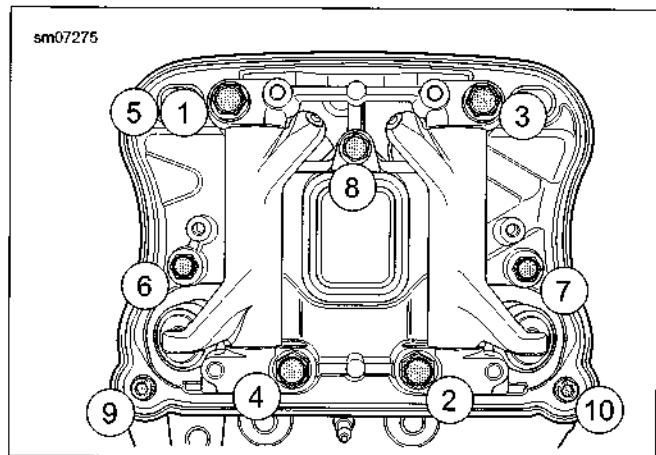

Figure 3-74. Inner Rocker Cover Torque Sequence
5. See Figure 3-74. Tighten the fasteners in sequence:
- a. Tighten the four large bolts (1, 2, 3, 4). Re-tighten the first fastener (5) to 18-22 ft-lbs (24.4-29.8 Nm).